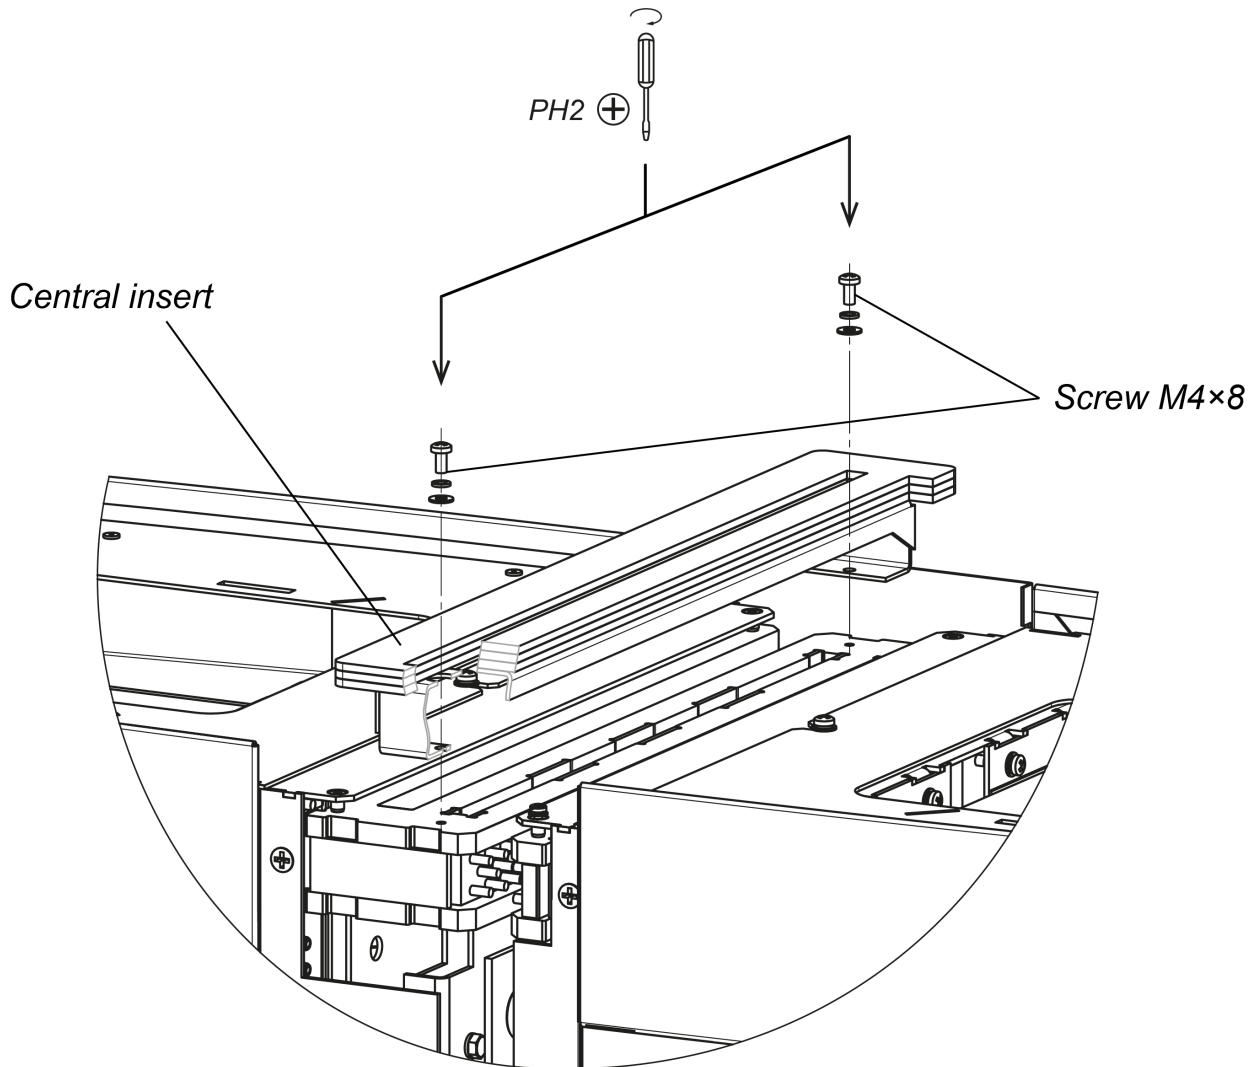

Figure 22. Installation of a central insert
- Mount the central insert (4) (see sect.8.7.4, Fig. 22).
2. Screw in the two M4×8 screws (see Fig. 22) with the washers by using PH2 Phillips screwdriver (installed by default).